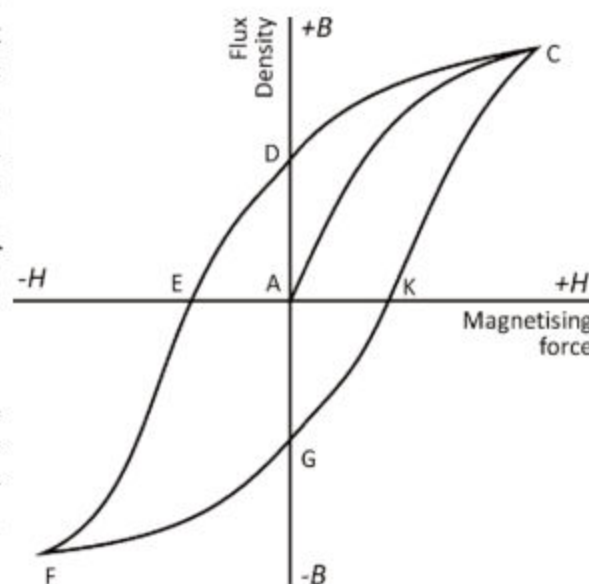

Figure 21.17
The hysteresis loop is a graphical representation, as shown in Figure 21.17 that shows the relationship between the magnetic field strength (B) and the magnetization (H) of a material. The loop is particularly useful for understanding how a material responds to changes in an external magnetic field. Here's how you can synthesize the variation of magnetic field strength with magnetizing current from the hysteresis loop.